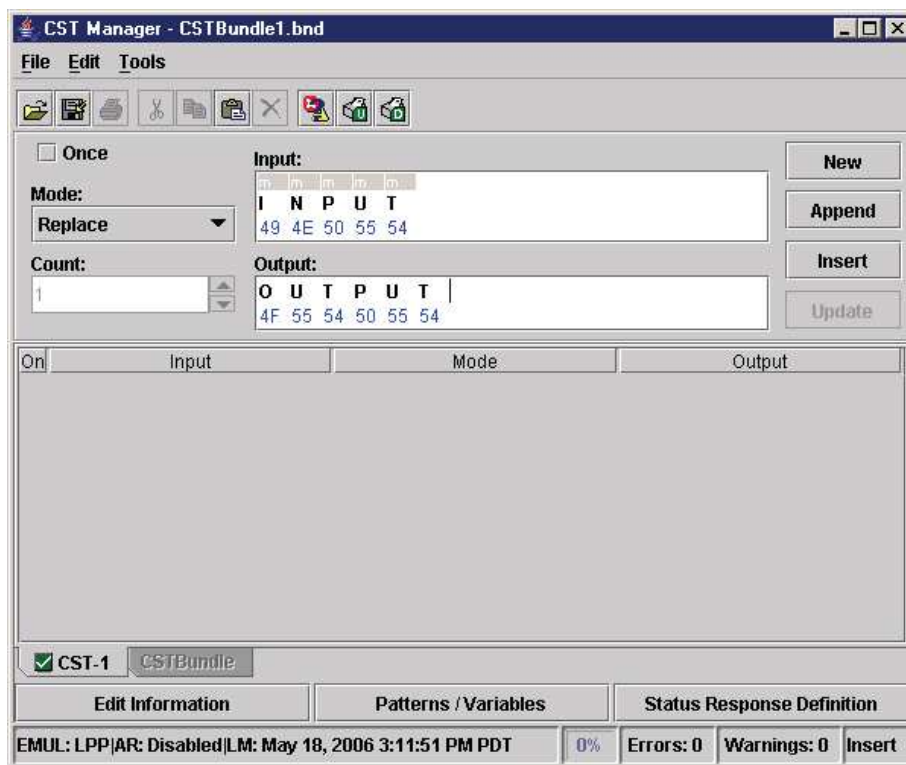

Figure 132 Creating a CST to Download Into a Printer
The datastream adapter is a software filter tool that allows you to take data from an incoming datastream and replace the data with different data, insert new data at any location in the datastream, or flush out portions of the datastream. This is accomplished through Character Substitution Tables (CSTs) created by the CST Manager (page 134). See Figure 132.
4. In the Output field, type **OUTPUT**. See Figure 132.